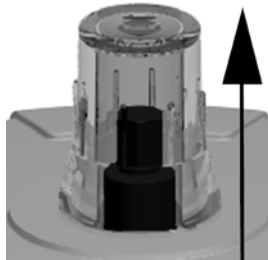

Fig. 12
- ▶ Move the valve into the "open" position, see fig. 12
- ▶ Move the valve into the “open” position, see fig. 12